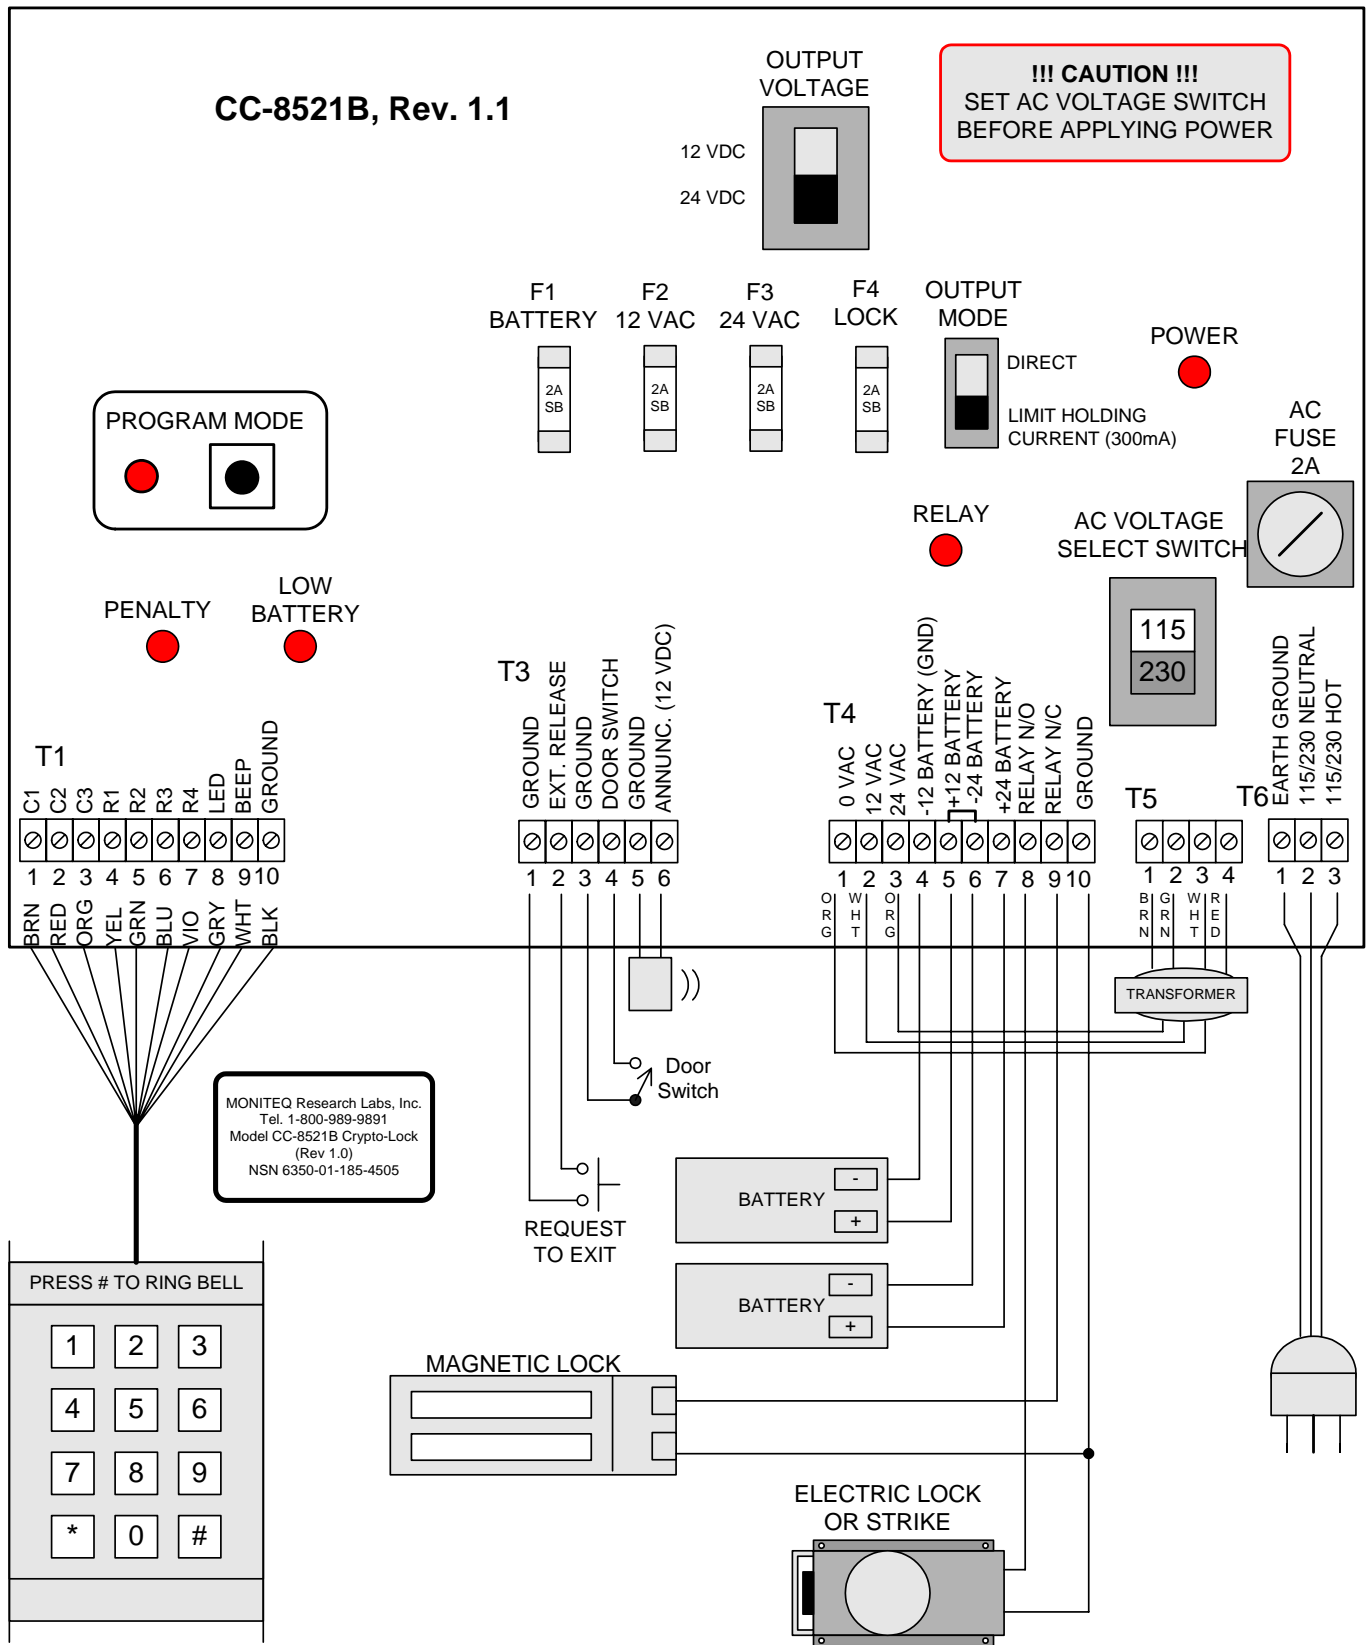

Figure 5-1, Wiring Diagram for External Devices
5. Connect the Keypad to the Control Unit as shown in Figure 5-1. Ten feet of cable is supplied with the Keypad. The Keypad can be located up to 1,000 feet from Control Unit using additional cable. (Requires 10 conductors, #22 or larger).
6. Connect the electric lock, strike and/or magnet as shown in Figure 5-1.
7. If used, connect a Release Button (not supplied), and external 12Vdc annunciator (not supplied), as shown in Figure 5-1. Note that an internal annunciator in the Control Unit will sound when the Keypad's # button is pressed and for all alarm functions.
8. If the Door Propped or Forced Door alarm functions will be used, connect the door switch to the Control Unit as shown in Figure 5-1.
9. If used, install and connect the batteries as shown in Figure 5-1 using the two supplied battery cables. Use only 12V, 1.2 to 7AH rechargeable sealed lead acid batteries. (Moniteq Type CC-BATT)
10. Set the AC Power switch in the Control Unit to either 115VAc or 230 Vac and connect the AC Power Cord to the Control Unit as shown in Figure 5-1.
The system includes a number of functions that make it possible to monitor the status of the door during operation. With the exception of the Open Duration function, these features require that a door position switch be installed on the door and connected to the Control Unit as illustrated in Figure 5-1.
The CC-8521B Keypad has a built-in visitor annunciator button. Pressing the # key causes an annunciator to sound in the Control Unit. If an external sounding device is connected as shown in Figure 5-1 it will also sound when this button is pressed.